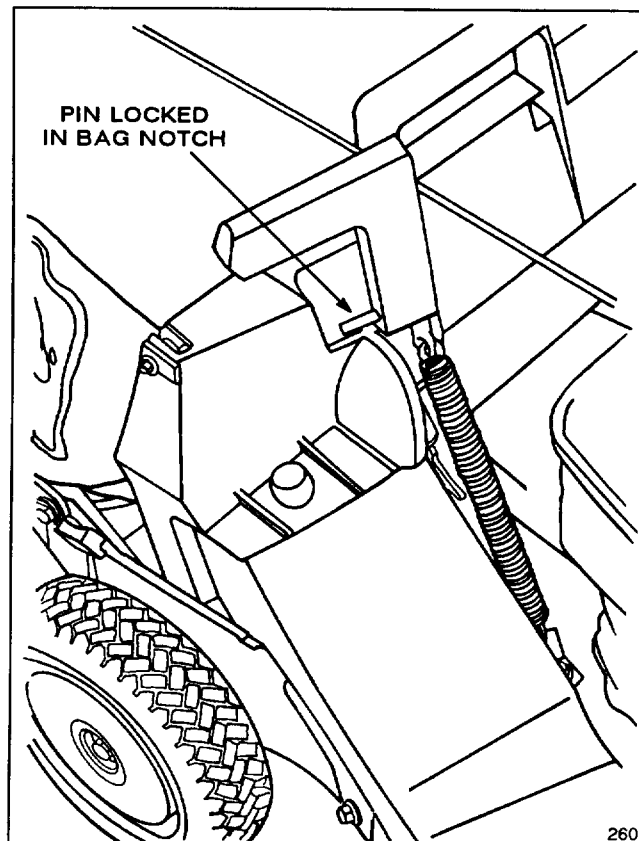

Figure 16
4. Pull discharge door handle forward until pin clears catch and move handle rearward until pin locks in bag notch (Fig. 16). Discharge door in mower housing is now open.